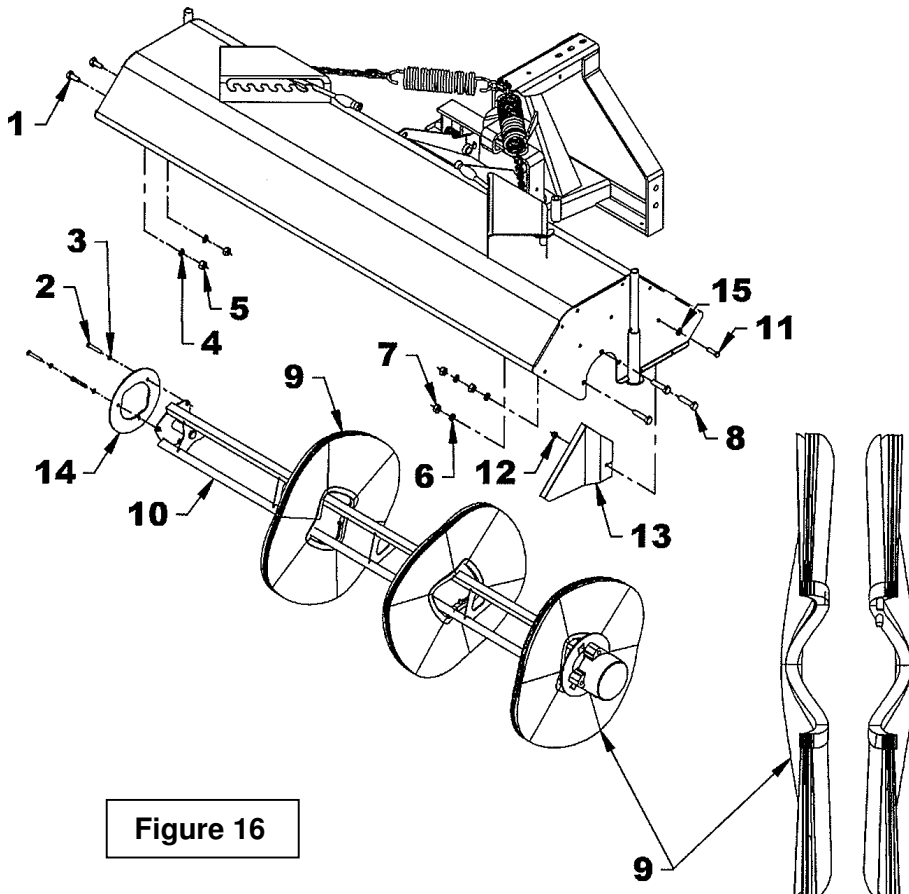

Figure 16
(Figure 16)
8. Remove the wafers (item 9) by sliding them off the support, one by one.
9. Insert the first wafer on the brush support (item 10) by aligning the guides (item 15) on each side of one of the brush support tubes (item 10). Continue the same procedure with the remaining wafers by turning each wafer 120° so the guides are distributed evenly on each brush support tube and making sure to always place the brushes back to back as shown on figure 16.
10. Reinstall the retaining plate (item 14) at the end of the brush support and secure with the three 5/16" x 2 1/2" hex. bolts (item 2) and the 5/16" lockwashers (item 3) making sure to screw each bolt 1/2" at a time to prevent the retaining plate from warping.
12. Make sure that the hydraulic hoses are well protected by the inner guard (item 13) to prevent damage during operation.